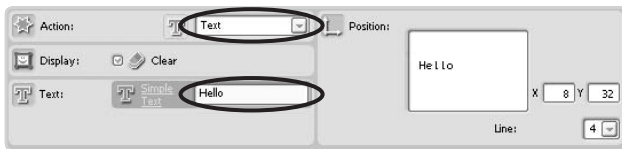

Figure 2-10: Final Display block configuration
- The last step is to replace *Mindstorms NXT* with *Hello* in the Text box. Figure 2-10 shows the completed settings with the changes highlighted.